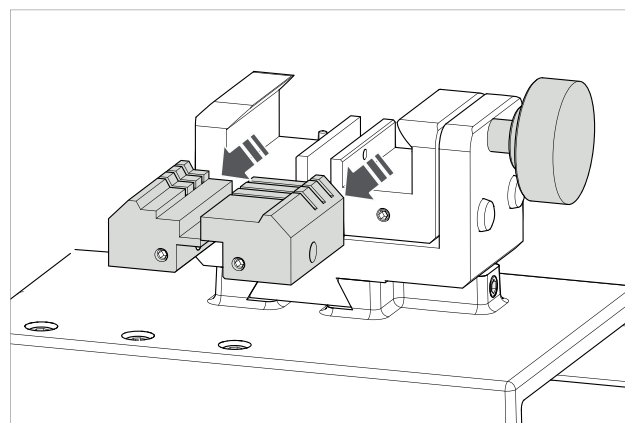

Fig. 54
- 3) Use your fingers to pull the jaw to be removed out towards the operator (Fig. 54).